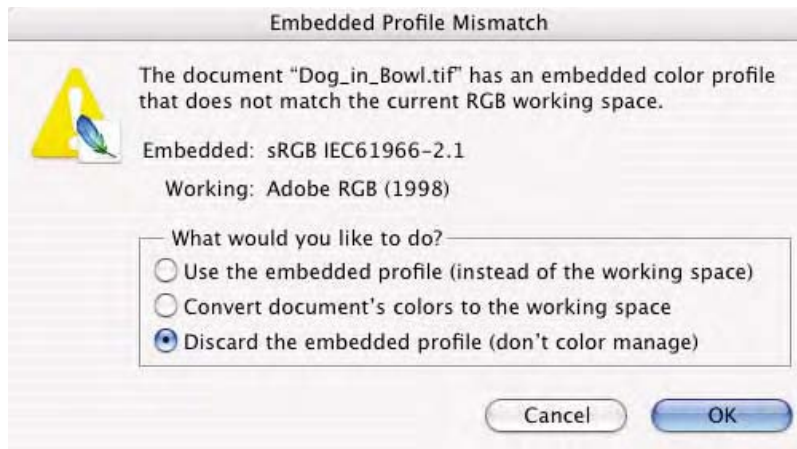

Fig. 9-5-5 The **Embedded Profile Mismatch** dialog with the default radio button set to **Discard the embedded profile (don't color manage)**.
1. Now reopen the **Dog_in_Bowl.tif** document once again. The **Embedded Profile Mismatch** opens yet a third time. The RGB working space is still set to Adobe RGB (1998) and the **Dog_in_Bowl.tif** document is still not in that color space. Notice that this time, the radio button defaults to **Discard the embedded profile (don't color manage)** as seen in Fig. 9-5-5. Click **OK** to open the document.